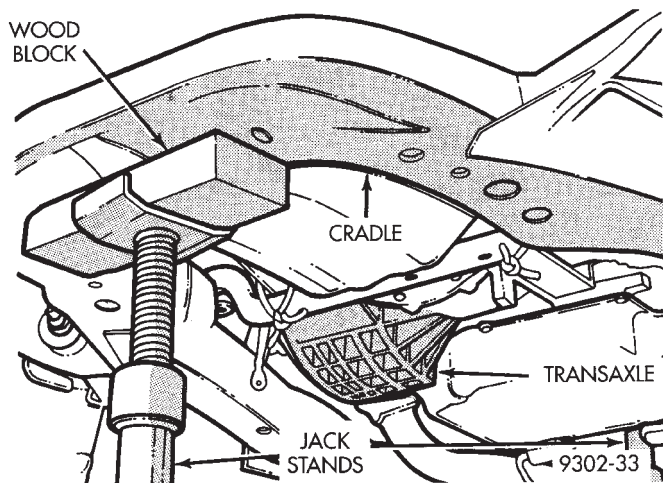

Fig. 50 Jack Stands Supporting Cradle And Transaxle
(9) Position a jack stand under front of cradle and at center of transaxle to cradle assembly mount (Fig. 50). Raise jack stand at transaxle mount until transaxle mount just lifts off cradle assembly.